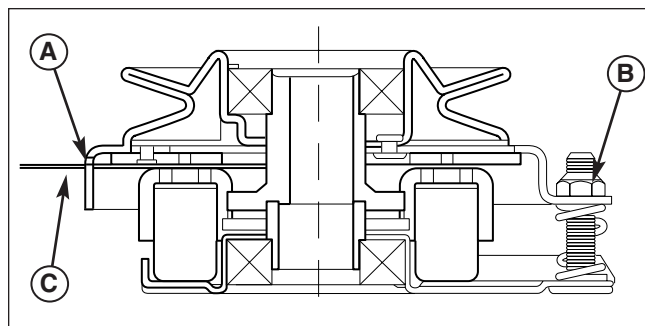

Figure 31. Adjust PTO Clutch
3. Insert a .016"-.018" (0,40-0,45mm) feeler gauge (C) through each window, positioning the gauge between the rotor face and the armature face as shown in Figure 31.